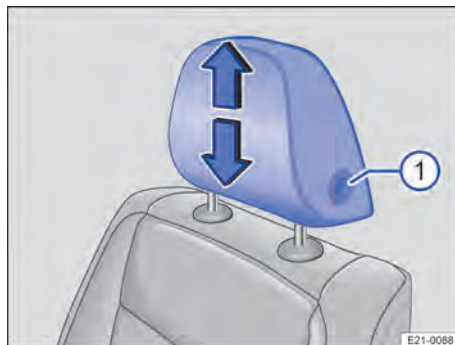

Fig. 79 First row of seats: adjusting the head restraints.
1. Push the head restraint up or down while pressing and holding the button → Fig. 79 ①.